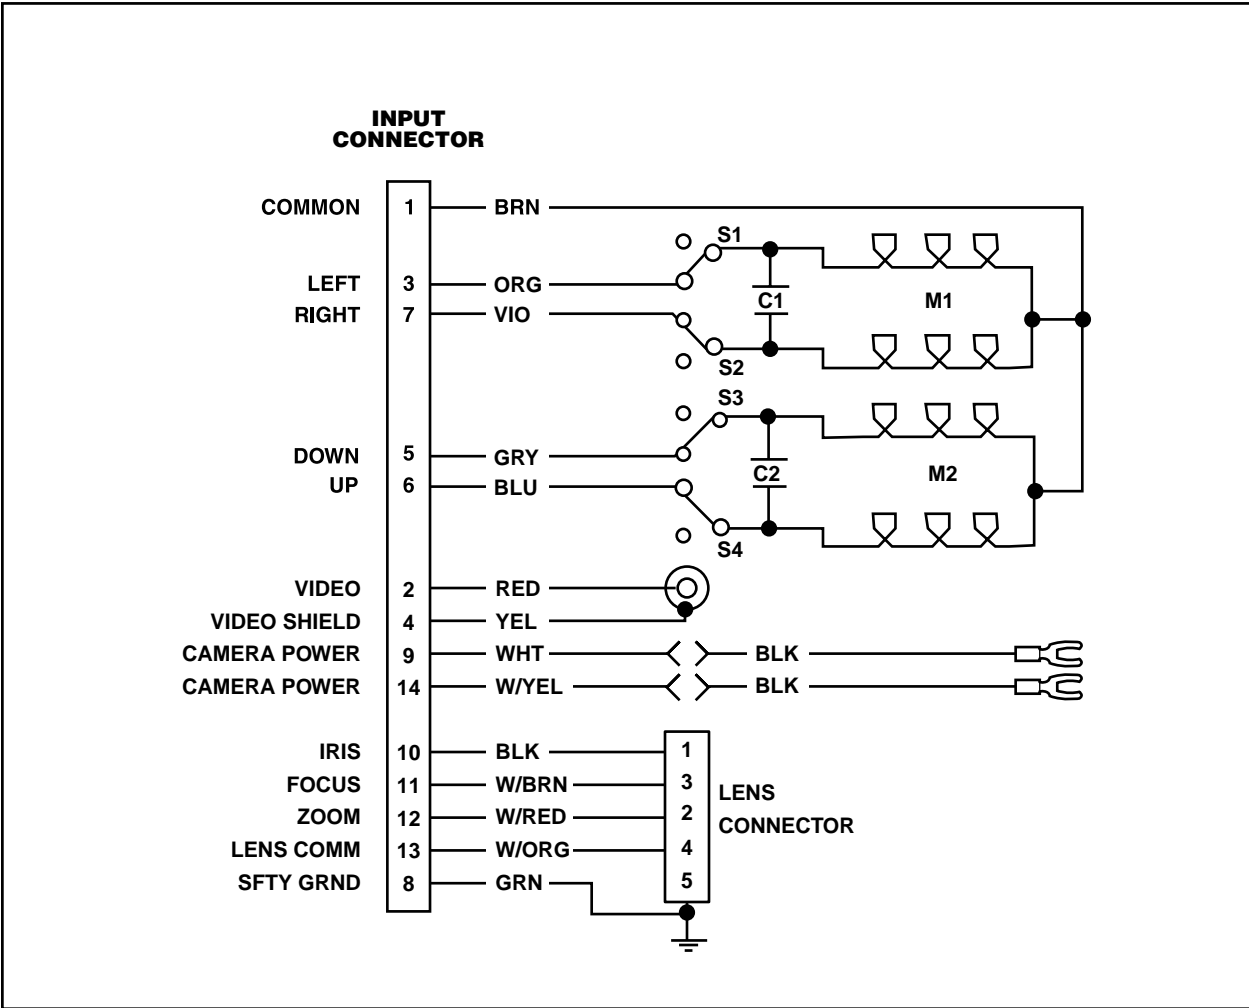

Figure 2. PT280-24P/PT280-24SL Wiring Diagram
2. Make the cable for the camera lens functions and connect it to the pan/tilt and camera. On the side of the pan/tilt is either a 6-pin or 9-pin connector that is for camera lens functions. The mating connector is supplied with the pan/tilt as loose equipment. To assemble the 9-pin connector to the cable, refer to Section 3.3.1, Mating Connector Assembly. Refer to Figure 2 to wire the 6-pin connector.